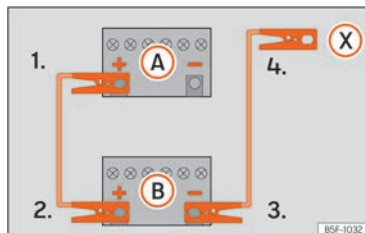

Fig. 50 Diagram of connections for vehicles without Start-Stop system.
2. Connect one end of the red jump lead to the positive (+) terminal of the vehicle with the flat battery (A) » » » Fig. 50.
3. Connect the other end of the red jump lead to the positive terminal (+) in the vehicle providing assistance (B).
- 4a. *In vehicles without a Start-Stop system:* connect one end of the black jump lead to the negative terminal (-) of the vehicle providing the current (B) » » » Fig. 50.